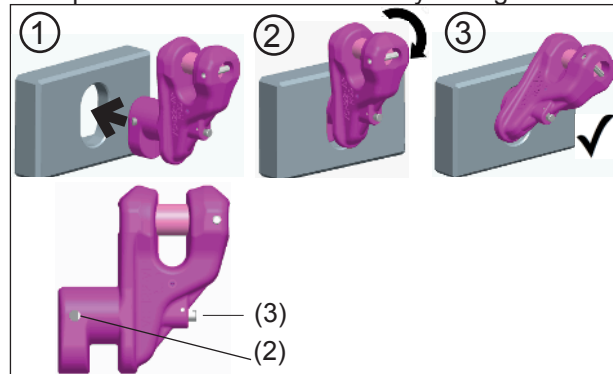

Fig. 5: Insertion of the VIP container hook VCH-SL 22
1. Insert the container hook VCH-SL 22 as shown in fig. 5 into the ISO corner. The securing bolt (2) opens and closes automatically during insertion.
6. Press the release bolt to remove the container hook (fig. 5 (3)).